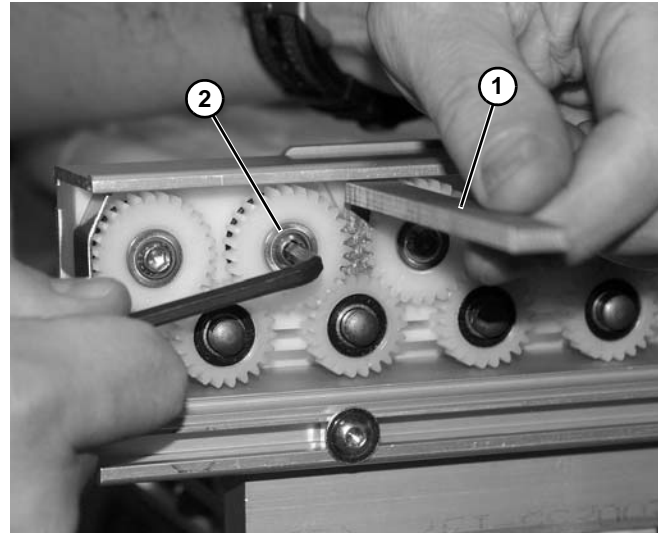

Figure 163
3. Install sprocket removal tool, part number 400571 (**Figure 163, item 1**) between gears.
4. Loosen screw (**Figure 163, item 2**) holding gear onto roller shaft.